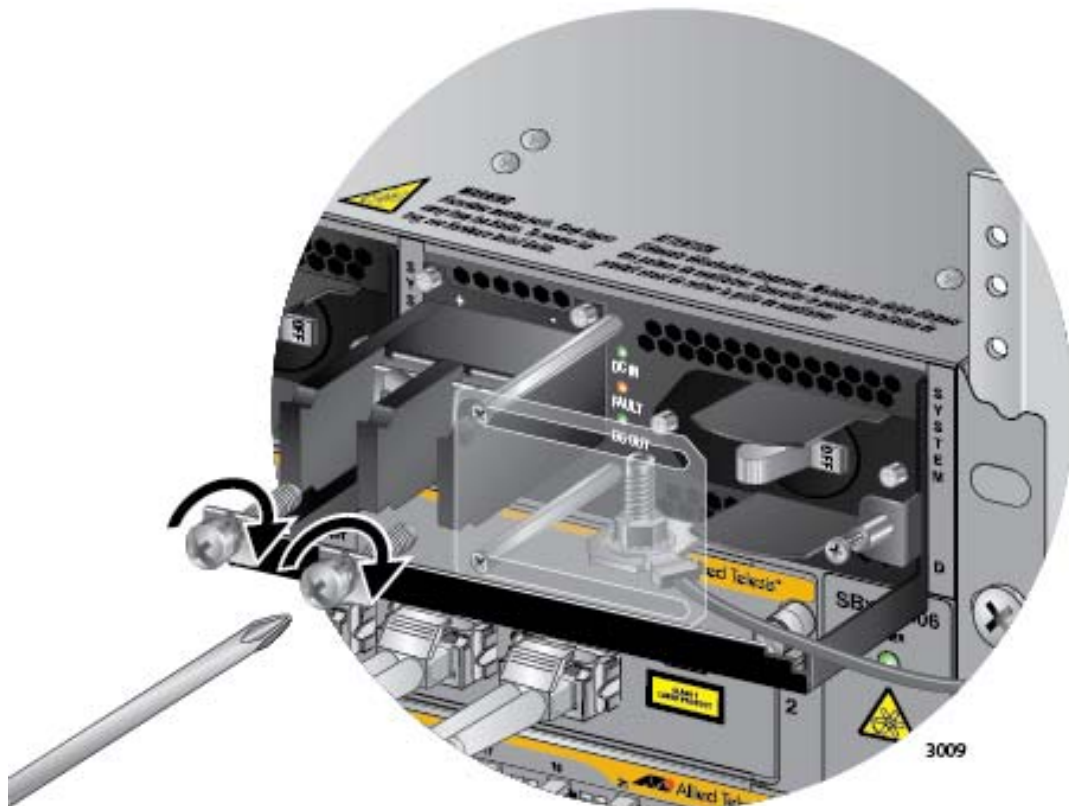

Figure 165. Reinstalling the Screws on the Positive and Negative Terminals
7. Reinstall the two screws on the negative (-) and positive (+) terminals. Refer to Figure 165 on page 267.